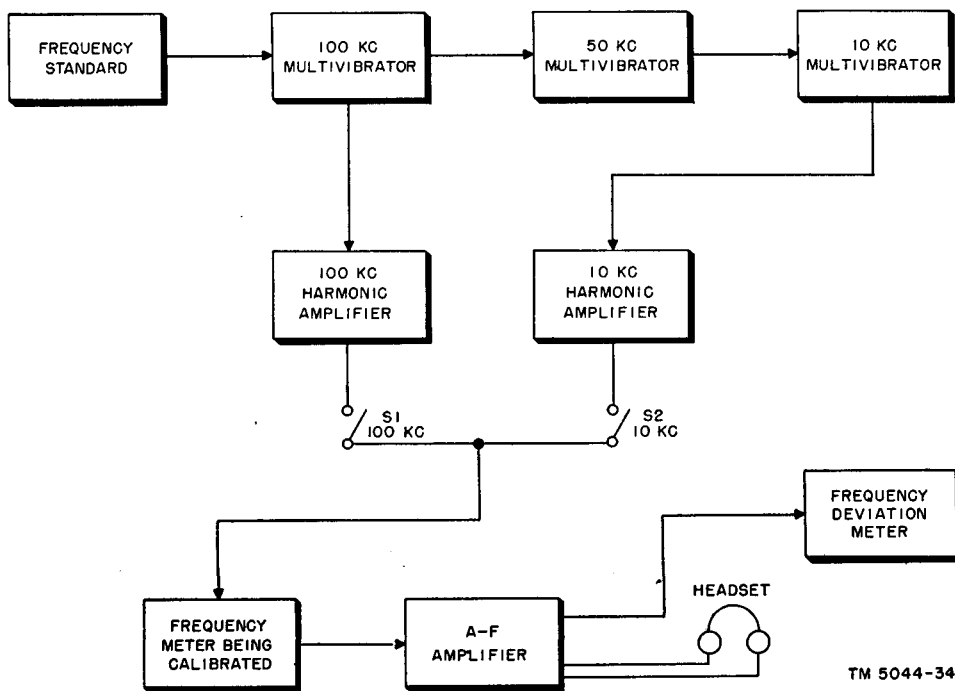

Figure 24. Block diagram showing calibration set-up.
b. PRELIMINARY SET-UP. In preparing for the calibration procedures, connect the equipments to be used (fig. 24) and turn them on for a sufficiently long period of time so that they will be well warmed up and stabilized. This is particularly true of the frequency standard to be used. Be sure that the frequency meter to be calibrated is in good operating condition. Connect the instrument to a well regulated and stabilized source of plate voltage (135 volts d-c) and filament voltage (6 volts d-c). A power supply should be used to furnish the plate voltage. This will overcome the drop in voltage associated with batteries. Heavy storage batteries may be used for the filament voltage. Be sure that the batteries are fully charged. After the frequency meter has been connected to a source of power, turn on the instrument and allow it to warm up for at least 4 or 5 hours. This will allow the instrument to stabilize properly. The calibration takes considerable time and any drift during calibration will add to the inaccuracy of the instrument. Protect the instrument from drafts or vibration during the calibration.
- (1) Follow the procedures outlined in *a*, *b*, and *c* above.
- (2) Set selector switch (S1) to the CHECK position. Check battery voltages to be sure that they are 135 volts and 6.0 volts.
- (3) Loosely couple the output of the 100-kc harmonic amplifier (fig. 24) to the antenna of the frequency meter. Connect the output of the PHONES jacks to the input of an audio amplifier. The output of the amplifier should be connected to a loudspeaker or preferably a headset for an audible check on the zero beat. A frequency deviation meter also may be connected as a visual means of checking the zero beat.
- (4) The first step in the actual calibration is to determine whether or not the tuning dial on the frequency meter will cover the range of 20 to 40 mc in the 5,000 dial divisions available on the tuning dial. With the harmonic amplifier mentioned in (3) above decoupled, set the selector switch to CHECK, the CORRECTOR control to 5 on the dial, and set the main tuning dial to 0000.0. Slowly rotate the main tuning dial until a zero beat is heard. If no radical changes have been made to the instrument, the first zero beat should be located somewhere between 0000.0 and 0500.0 on the main tuning dial. To check this, set the selector switch to OPER., loosely couple a receiver to the antenna of the instrument, and tune the receiver through 20 mc while set up for cw. A distinct beat should be obtained at 20 mc. If the beat is obtained at 20 mc, set the receiver to 40 mc and turn the main tuning dial of the frequency meter up scale until a beat note is heard again in the